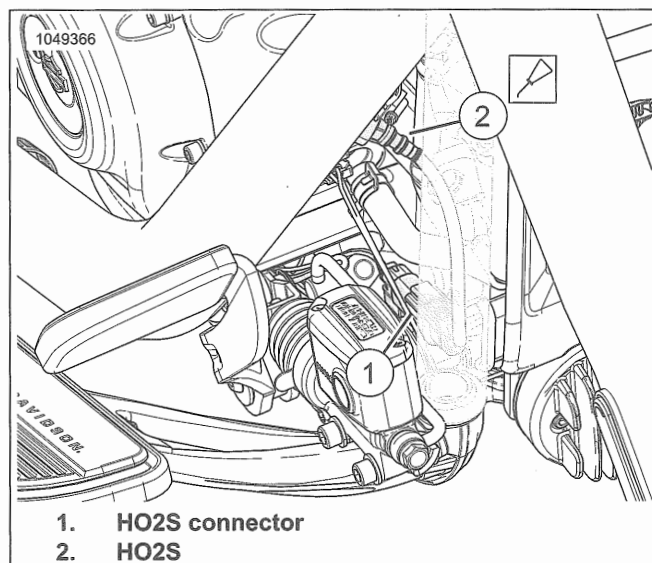
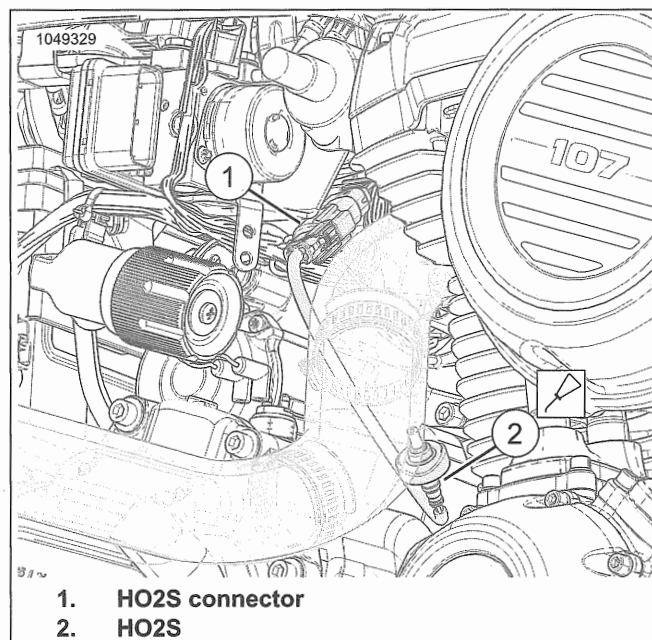

Figure 6-37. Front HO2S (Heated Oxygen Sensor)
Figure 6-38. Rear HO2S (Heated Oxygen Sensor)
1. See Figure 6-37 or Figure 6-38. Disconnect HO2S connector (1).
2. Remove HO2S (2) with OXYGEN SENSOR WRENCH (PART NUMBER: HD-50017).
1. See Figure 6-37 or Figure 6-38. Install HO2S (2). Tighten. Torque: 12–14 ft-lbs (16.3–19 N·m) HO2S (Heated oxygen sensor)
2. Connect HO2S connector (1).